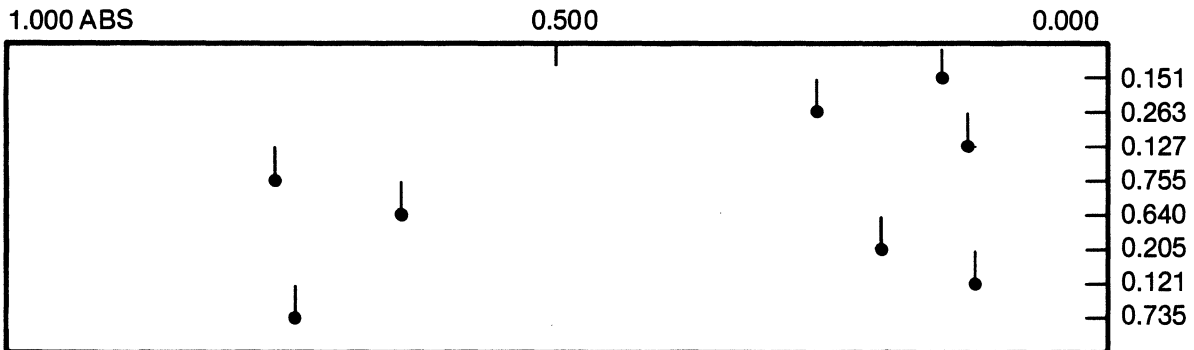

Figure 8-2. Plotter Output for Method 6, Cycle Number = 1. The photometric value for each measurement is printed along the right edge of the chart.
3. When all of the parameters have been set, the **Print List** key can be used to obtain a header for the experiment, and a listing of the parameters used. A sample output is shown in Figure 8-2.
4. Place the sample in the sample chamber and press **Measure**. If the Scaling status is (1) ON, then a photometric axis will be automatically drawn on the printer/plotter. After the data has been collected, it is plotted as shown in Figure 8-2. A 0.5 cm line is drawn to indicate the photometric value, and a small circle is drawn at the end of the line. At the edge of the graph, directly opposite the plotted circle, the photometric value is printed out.